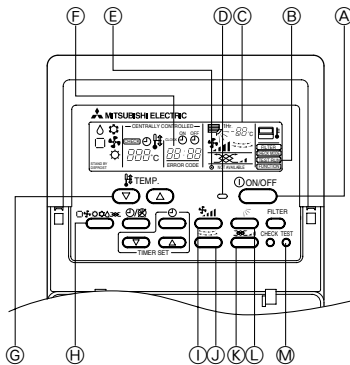

Fig. 7-1
7.2.1. Using wired remote controller (Fig. 7-1)
- ① Turn on the power at least 12 hours before the test run.
- ② Press the [TEST] button twice. ⇒ "TEST RUN" liquid crystal display
- ③ Press the [Mode selection] button. ⇒ Make sure that wind is blown out.
- ④ Press the [Mode selection] button and switch to the cooling (or heating) mode.
- ⑤ Press the [Fan speed] button. ⇒ Make sure that the wind speed is switched.
- ⑥ Switch the wind direction by pressing the [Airflow] or [Louver] button.
- ⑦ Release test run by pressing the [ON/OFF] button. ⇒ Stop